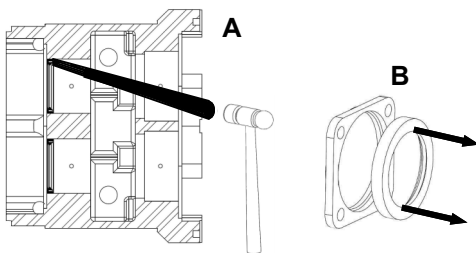

Figure 41: Removing Oil Seals
5) Remove the shaft shims making sure to correctly label which shaft they came from and from out of which shaft bore they came. If the shafts are to be reused, they will need to be reinstalled with the original shims. Failure to do so could result in damage and misalignment in the pump body. Remove and discard the rear oil seals from the back of the gear case. Use a long, non-metallic rod and a soft mallet to punch the seal out from the front side (Figure 41, A). Remove and discard the front bearing seals from the bearing retainers by pressing them out (Figure 41, B). Clean the bearing retainers as they will be reused. Clean excess grease and sludge inside of the gear case before reassembling.